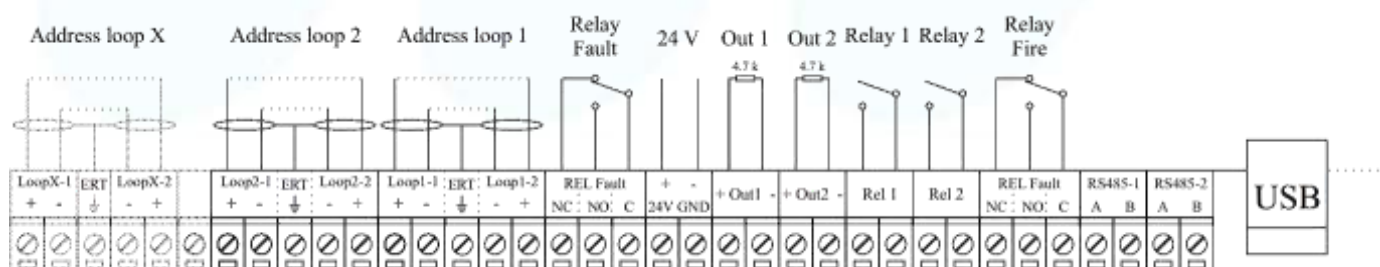

Fig.3 - Terminal block on the main board
5.4. Terminal order on the panel – in Fig. 3 is show the terminal block of the panel